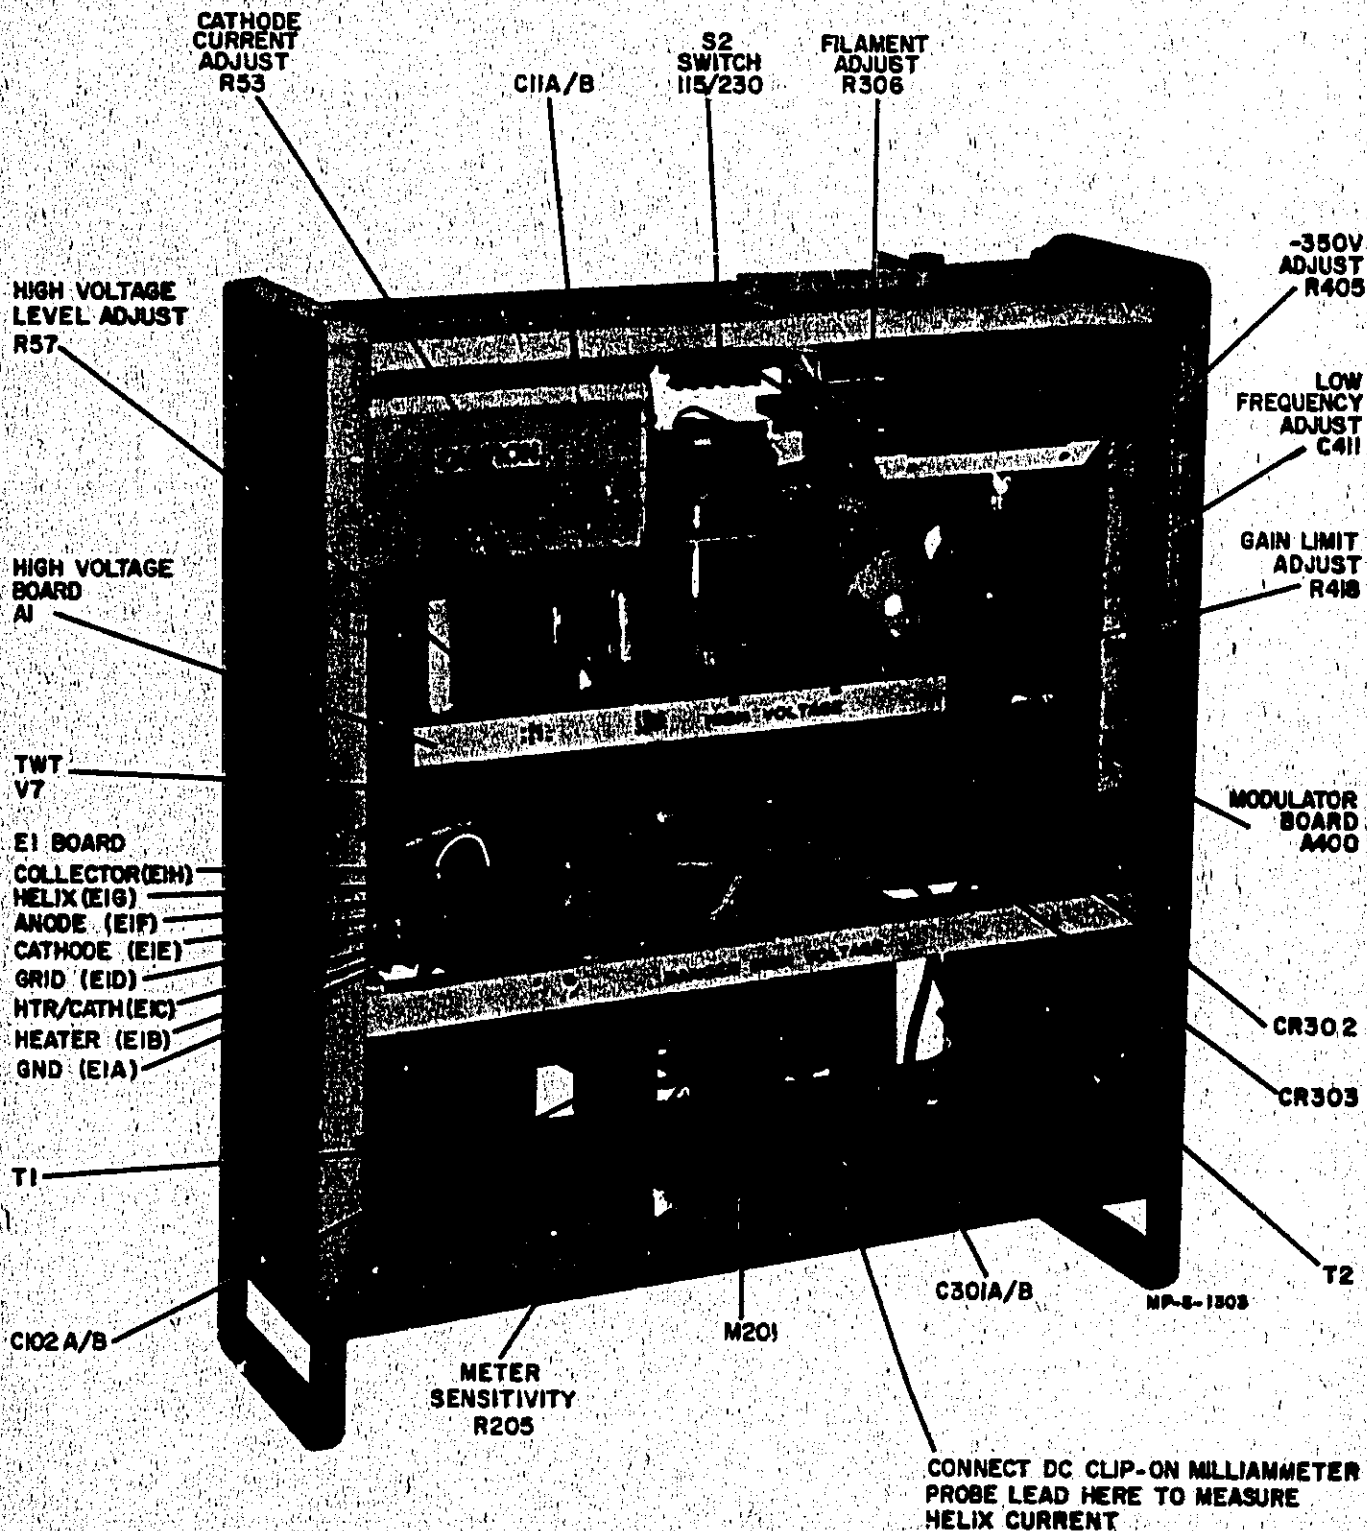

Figure 5-3. © Model 493A Top View
- g. Remove E1 mounting screw nearest ground terminal (E1A, Figure 5-3), and swing E1 assembly aside.
- f. Connect jumper wire between E1C (grey filament lead) and E1E (white cathode lead) on the E1 board. All replacement tubes require the jumper between E1C and E1E. Connect the TWT lead to terminal board E1 as shown in table 5-2 and figure 5-3.
- b. Rotate filament adjust R306, (figure 5-3) full counterclockwise.
- c. Connect dc voltmeter between E1B and E1C (see figure 5-3). DC voltmeter to 10-volt range.
- a. Parallel an ac and dc voltmeter; connect between helix terminal (E1G) and ground (figure 5-3).
- c. With the high voltage adj. R57, (figure 5-3) set the collector/helix voltage to the value stamped on the TWT capsule.
- a. Parallel an ac and dc voltmeter; connect between anode terminal (E1F) and ground (figure 5-3).
- b. With the cathode current adjust R53 (figure 5-3), set anode voltage to value listed in TWT data sheet.
b. With the -350 volt adj. R405 (figure 5-3), set -350 volt regulated power supply to -350 volts.
a. Parallel an ac and a dc voltmeter; connect between grid terminal E1D and E1E (figure 5-3).
e. Connect a dc clip-on milliammeter to the orange or yellow lead located on the board directly behind the current meter (see figure 5-3).
- d. Adjust high frequency adj. R411 (see figure 5-3), for optimum square-wave output. Rise time should be less than 0.8 μ sec, overshoot less than 5%.